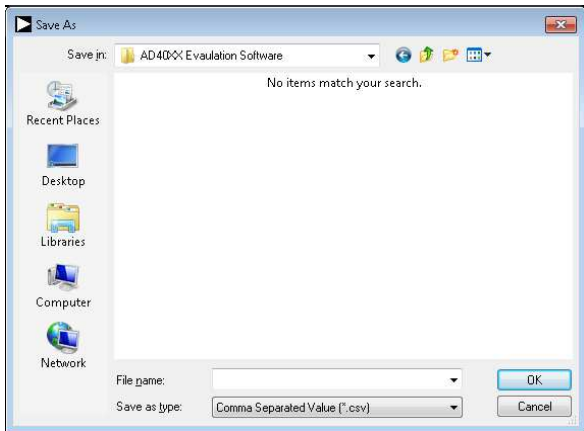

Figure 19. **Save As** Dialog Box
- **Save Captured Data** allows the user to save the current captured data for later analysis, and the file format is .csv. The user is prompted to choose or enter the path of the file in the **Save As** pop-up (see Figure 19); save to an appropriate folder location.